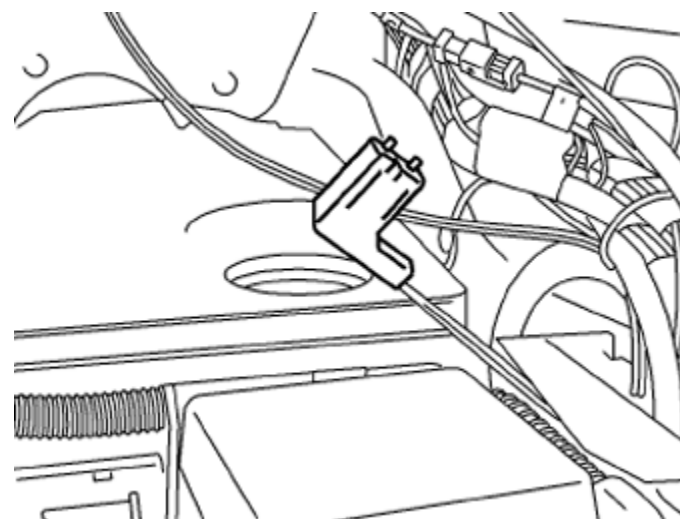

Figure 3
- b) 90°-angle connector (Figure 3)
- c) Straight connector (not shown: similar to Figure 3, except straight) Disassemble by gently separating the two plastic housing halves.